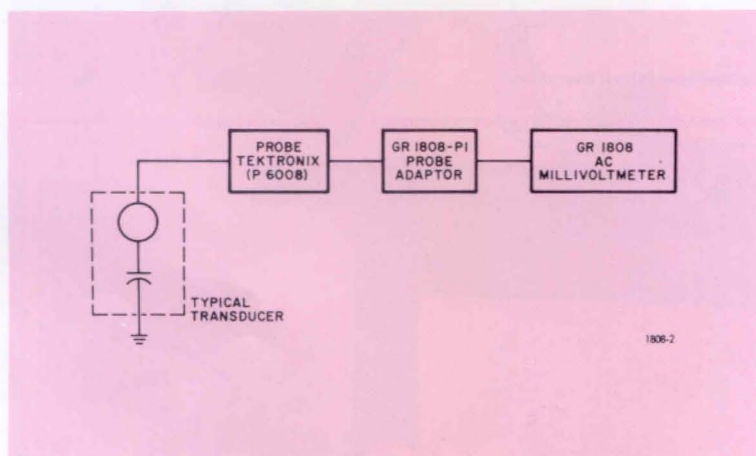

Figure 3. Suggested measurement system for transducer response.
- An important application for the millivoltmeter is voltage measurement from accelerometers, strain gauges, microphones or other similar transducers. In general, such transducers can be reduced to an equivalent-voltage source in series with a capacitance (Figure 3). The voltage source is usually less than 100 millivolts and the capacitor C may be a